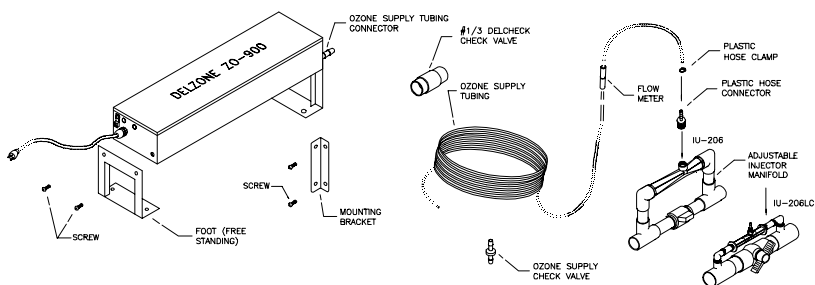
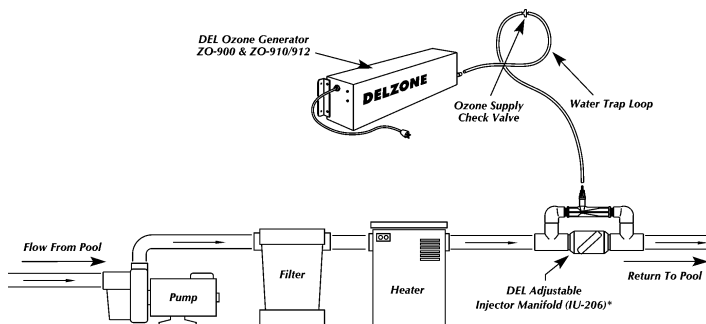
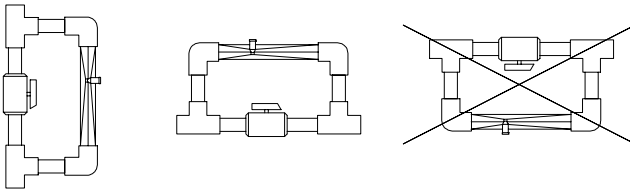
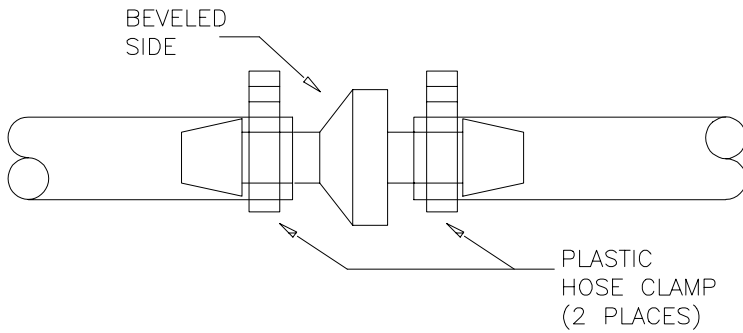

Figure 1: Ozone Generator and Parts
Figure 2: Installation Diagram
Figure 3: Injector Mounting Diagram
Figure 4: Check Valve
6. A pressure wire connector is provided on the outside of the unit to permit connection to a minimum No. 8 AWG (8.4 mm²) solid bonding conductor between this point and any metal equipment, metal enclosures of electrical equipment, metal water pipe, or conduit within five (5) feet (1.5m) of the unit as needed to comply with local requirements. Install at least 5 feet (1.5m) from the inside wall of the pool and one foot above the maximum water level to prevent water from contacting electrical equipment using non-metallic tubing.
7. The ZO-900 must be installed in an outdoor location, or indoors in a forced air ventilated room. Install so that the orientation is as shown in Figure 1. This will provide water drainage of the generator to protect electrical components.
Unpack the DELZONE unit and become familiar with it (Figure 1).
Attach mounting brackets to the ZO-900 with provided screws as shown on Figure 1. Find a suitable location to install the ZO-900. It cannot be accessible to anyone inside the pool and must be mounted in an upright position as shown in Figure 2. A second set of brackets (indicated as wall mounting brackets, located in the parts bag) is provided for optional wall mounting indoors only.
The ZO-900 should be mounted **above** the water line if possible. If this is not possible, the ozone supply tubing **must** be routed above the water line with a Hartford Loop (water trap; Figure 2) between the generator and the pool. In either case, the ozone supply check valve provided must be installed in the ozone supply tubing between the generator and the injector. See Figure 4 for further installation information on the ozone supply check valve.
Turn the handle on the injector manifold counter-clockwise all the way until the ball valve is wide open. Locate an appropriate section of the return line, hold the injector manifold against the pipe and mark the length. Subtract 2- 2/3" from the overall length. Mark this point, and cut out the section (about 12- 1/3"). Install the injector manifold with PVC cement. Be very careful to observe and follow the correct water flow direction (Figure 2). The injector manifold can be installed in either a vertical or horizontal position in the return line, but should **not** be installed with outlet facing down (Figure 3).
NOTE: If the pool equipment is located above the water level of the pool, you must install the clear PVC DELCheck™ 1/3# check valve as shown in Figure 2.
Locate the plastic hose connector, wrap 3 layers of teflon tape on the threads (do not use thread sealant), and install it hand tight into 1/2" female pipe thread fitting of the **DEL Adjustable Injector Manifold**. Tighten the plastic hose connector 1/2 turn with a wrench. Locate the flowmeter installed toward one end of the ozone supply tubing and secure this end of the tubing to the barb end of the plastic hose connector with a supplied plastic hose clamp as shown in Figure 1. Locate the ozone supply check valve and install it into ozone supply tubing by cutting tubing and securing it on the both ends of the check valve with plastic hose clamps as shown in Figure 4.
NOTE: Be sure the beveled side of the ozone supply check valve is pointing toward the direction of the injector (Figure 4).
To make a Hartford Loop, simply coil the tubing into a complete circle about 6" diameter (Figure 2), and fasten it above the water line. The Hartford Loop will act as a water trap to prevent water from running back to the generator in case the check valve fails. The supplied plastic check valve should be installed in the ozone supply tubing near the loop, between the generator and the loop, and secured with plastic hose clamps (Figure 2). *Be sure that the beveled side of the check valve points in the direction of the injector.* Your installation is now complete. The DELZONE ZO-900 will automatically inject ozone into the pool water to keep it clean and sanitized.